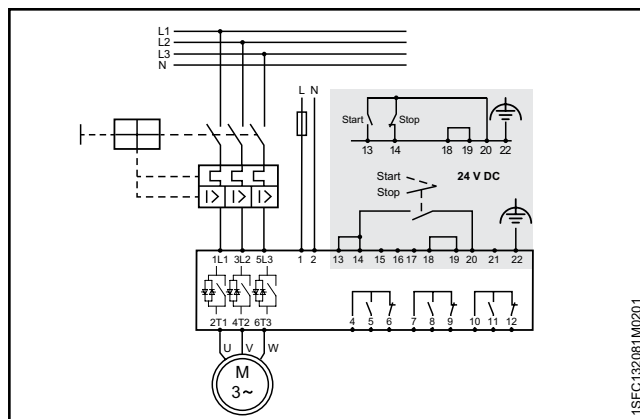

Figure 2.5
7. Connect terminals 4, 5, 6, 7, 8, 9, 10, 11 and 12 to use the signal output relays. These are potential-free contacts for maximum 250 V AC, 1.5 A AC-15 and 30 V DC, 5 A DC-12. See **Figure 2.5**.